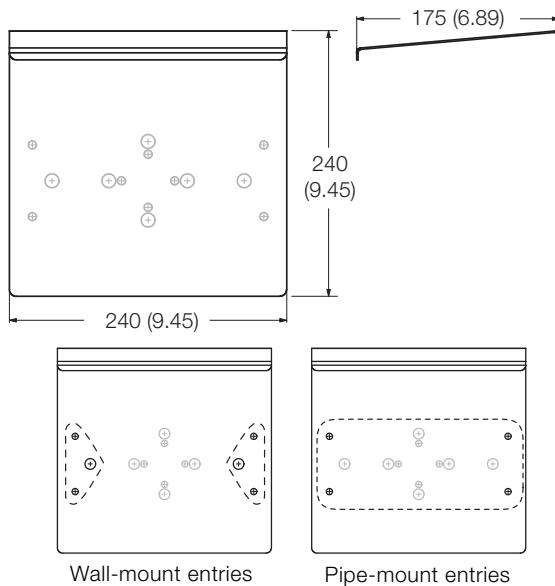

Fig. 19: Weathershield kit (pipe- and wall-mount installations)
- Weathershield kit CM40/0702 (see Fig. 19)